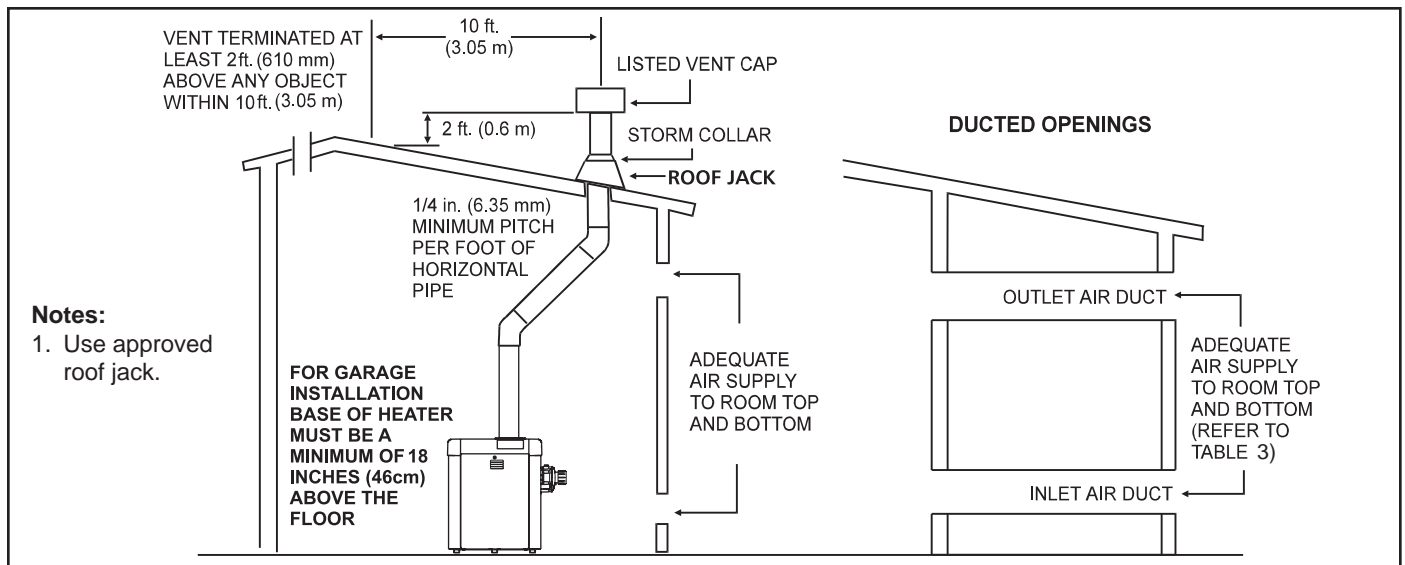

Figure 7. Indoor Installation Venting (USA), or Outdoor Shelter (Canada)
In general, these requirements specify that the room in which a heater is installed should be provided with two (2) permanent air supply openings; one (1) within 12 inches (305 mm) of the ceiling, the other within 12 inches (305 mm) of the floor. All indoor installations must have openings to outside air for combustion, ventilation, and dilution of flue gases from inside the building. See Figure 7 and Table 3. Zodiac Pool Systems, Inc., does not recommend indoor installations that do not provide combustion air from outside the building.
If air is provided through horizontal ducts, each opening and duct must provide 1 square inch of flow area for each 2000 BTU/h (0.6 kW). These requirements are summarized in Table 3. Note that the areas specified are net free areas and should be increased when the openings are covered by screens, louvers, grills or other protective covers. see Figure 7 and Table 3 notes.